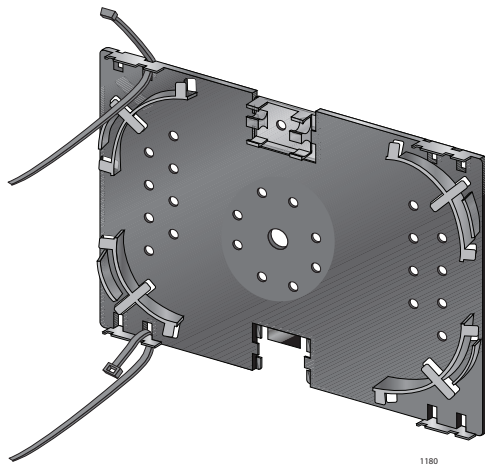

Figure 25. Inserting the Wire Ties
2. Insert a small clear wire tie through the holes in the left upper and lower mounting tabs on the bottom portion, as shown in Figure 25.